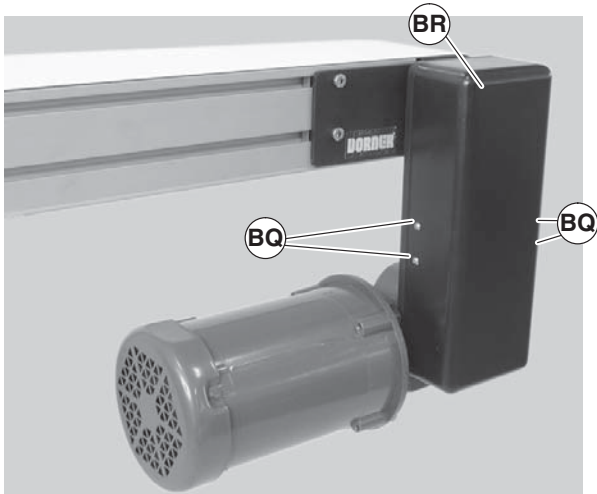

Figure 60
- b. Remove four (4) screws (Figure 60, item BQ) and remove cover (BR).